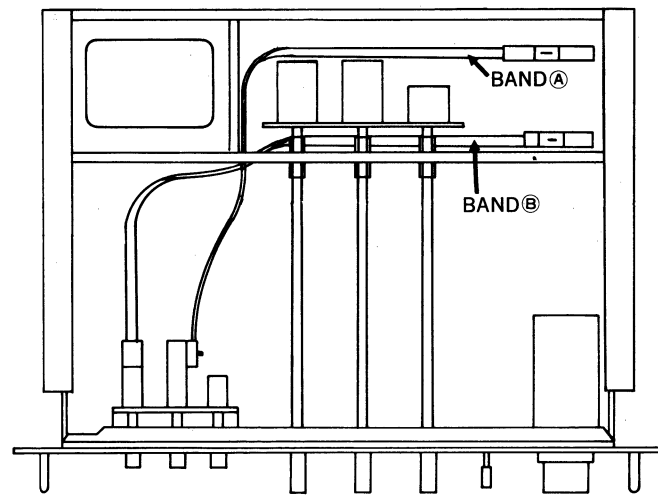

Fig. 4
Note: When attaching the remote-switch bands to the remote switch, attach so that BAND (B) is on the lower side. (Refer to fig. 4)